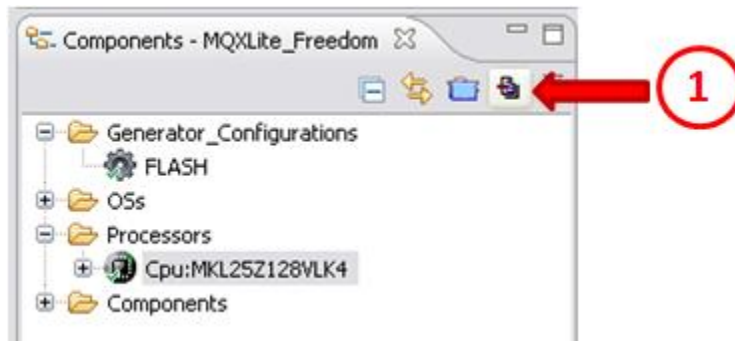

Figure 17. Generating Processor Expert code
- After the changes, it is possible to generate code using Processor Expert. To do this click on the generate code button located in the upper right corner of the Components window. See Figure 17.